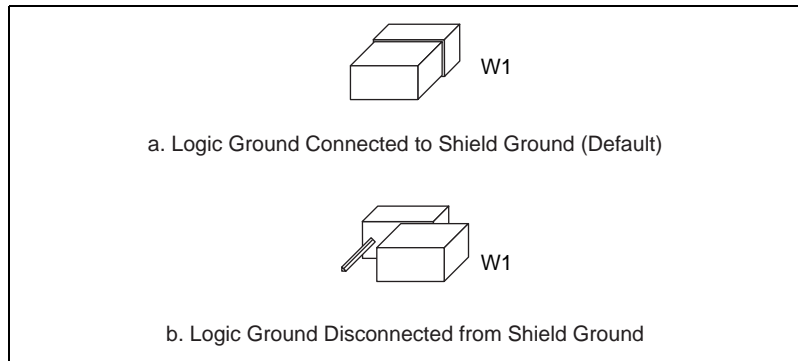

Figure 2-12. GPIB-PCII/IIA Ground Configuration Jumper Settings
2. Remove the jumper and place it across only one of the jumper pins, as shown in Figure 2-12.